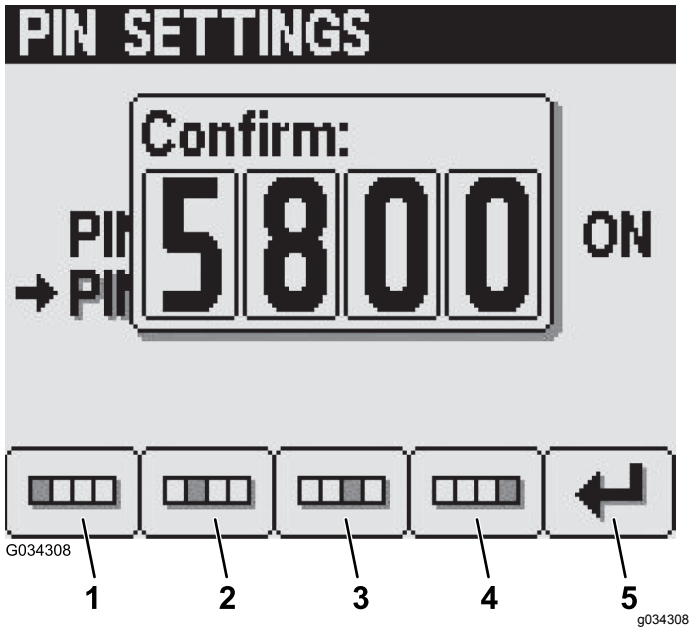

Figure 37
- In the Confirm screen, enter your new PIN using buttons 1 to 4, and press button 5 to enter the PIN into the InfoCenter (Figure 37).